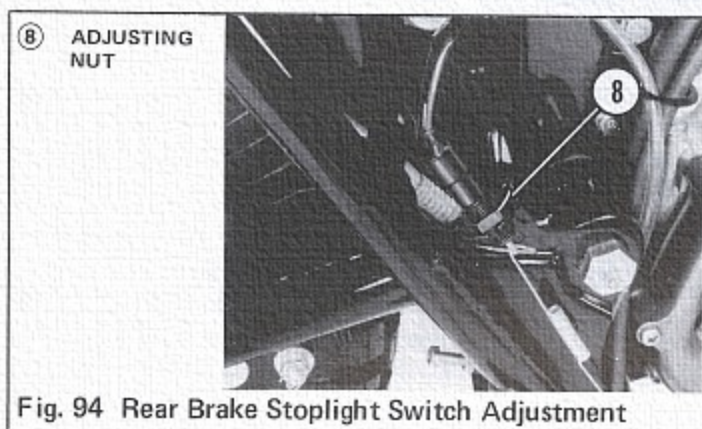

Fig. 94 Rear Brake Stoplight Switch Adjustment
All Honda motorcycles intended for street use are equipped with a rear brake stoplight switch of the type illustrated in Fig. 94 & 95. The rear brake pedal is connected to the operating rod (6) of the switch. When the pedal is depressed, this pulls the operating rod down, and the metal tip of the rod completes a circuit between the contacts (4), lighting the stoplight. When the brake pedal is released, an internal spring (7) retracts the operating rod, and its metal tip is withdrawn from contact, breaking the circuit.